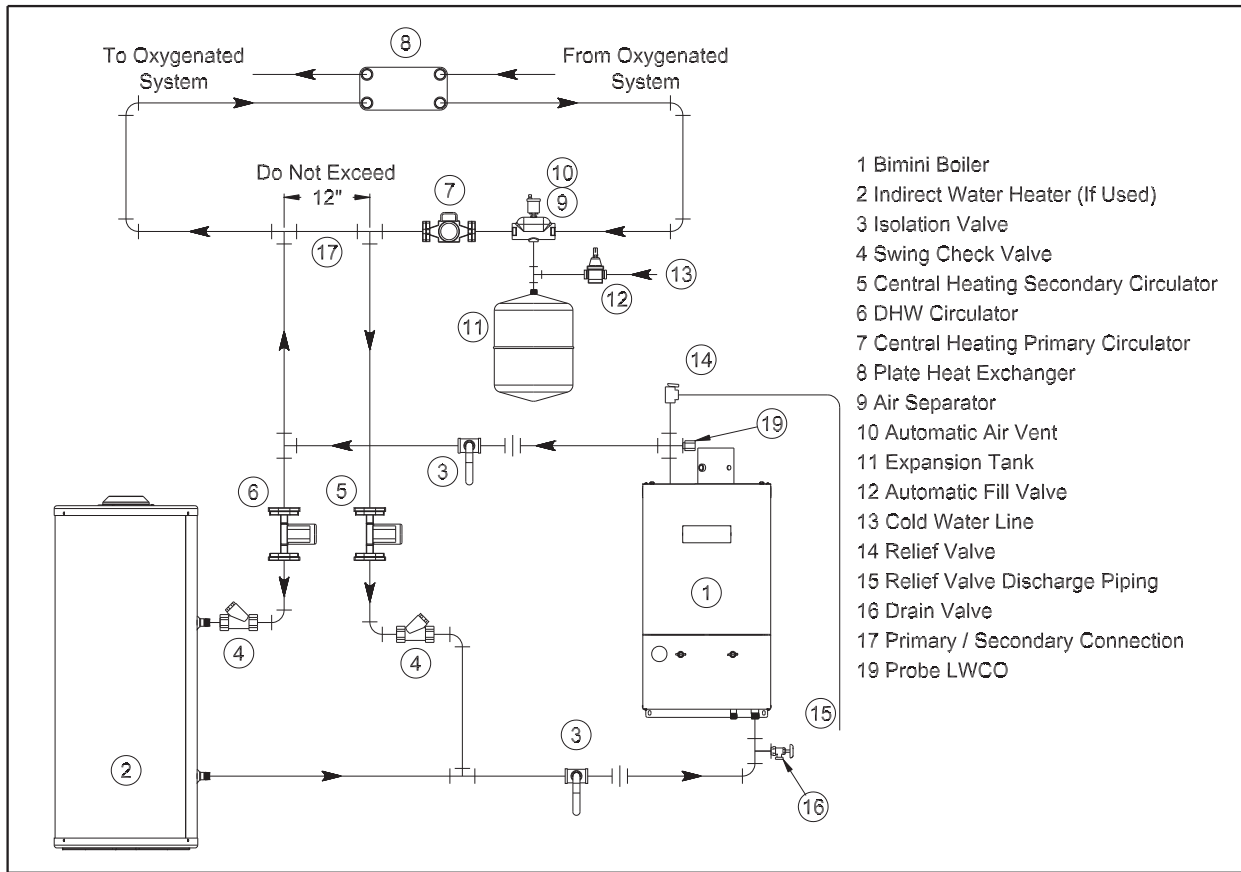

Figure 9.10: Isolation of the Boiler From Oxygenated Water with A Plate Heat Exchanger
If the boiler is to be used in such a system, it must be separated from the oxygenated water being heated with a heat exchanger as shown in Figure 9.10. Consult the heat exchanger manufacturer for proper heat exchanger sizing as well as flow and temperature requirements. All components on the oxygenated side of the heat exchanger, such as the pump and expansion tank, must be designed for use in oxygenated water.
**3) Radiant Tubing and Oxygen Barriers** - Even if the system is tight, oxygen can be introduced into the system through some types of non-metallic tubing used in radiant or snow melt systems. Other non-metallic tubing is equipped with an oxygen barrier to prevent migration of oxygen into the water. If the boiler is to be installed in a system containing non-metallic tubing without an oxygen barrier, it must be isolated from the boiler with a heat exchanger as shown in Figure 9.10.